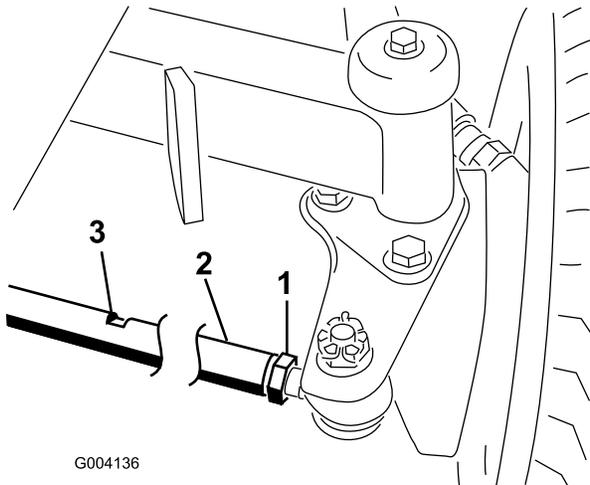

Figure 59
2. Loosen the jam nut on each end of the tie rod (Figure 59).